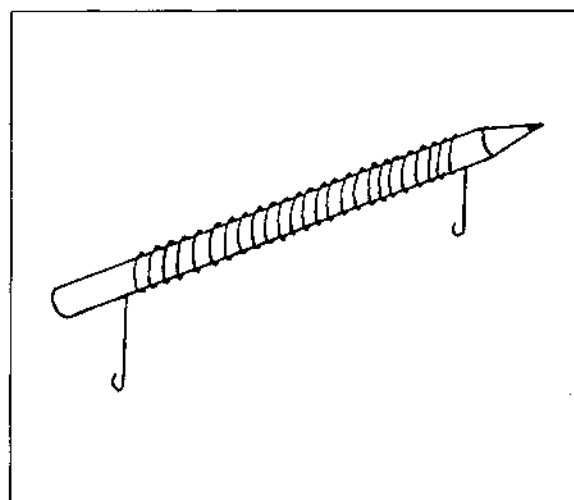

Fig. 2 Winding a wire to form a filament e.g. with the help of a pencil
(1) wire filament ► Fig. 2; (2) wire winding board
4. Wind the iron wire in such a way that it forms a filament (e.g. with the aid of a pencil (fig. 2).